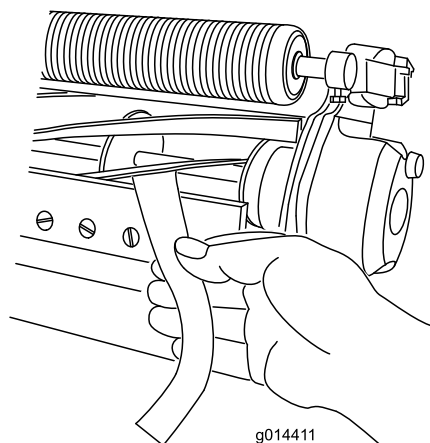

Figure 5
11. Test the cutting performance by inserting a long strip of cutting performance paper between the reel and bedknife, perpendicular to the reel and bedknife (Figure 5). Slowly rotate the reel forward to cut the paper.